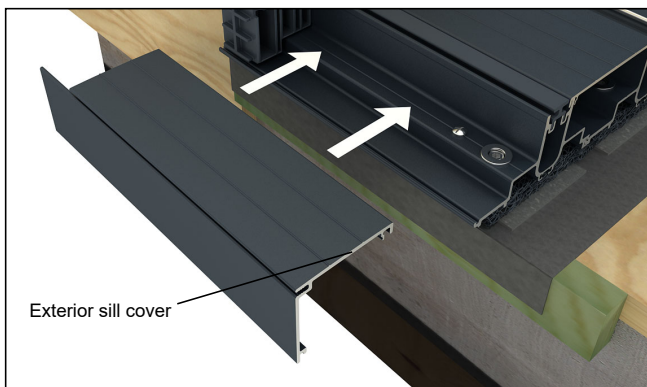

Figure 29
7. Install all sill covers onto sill using a rubber mallet. Middle sill covers must align with thermal breaks in sill and note that the exterior sill cover may have to be slid into place from the exterior side under the jamb. See figure 29.